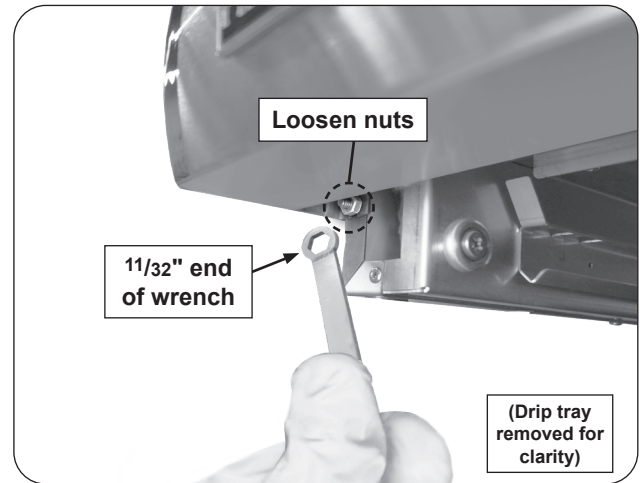

Fig. 1-1 Remove control panel
3. Loosen the nuts underneath the left and right sides of the control panel with the included 11/32" end of the wrench (see Fig. 1-1), then lift the panel until it is freed from the screws. Carefully rest the bottom of the control panel on the drip tray. The top portion of the control panel is supported by the internal chains.